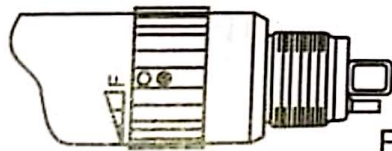

Fig. 3
(1) Forward Rotation: Turn the FWD/REV Change Ring to "F" as shown in Fig. 3.